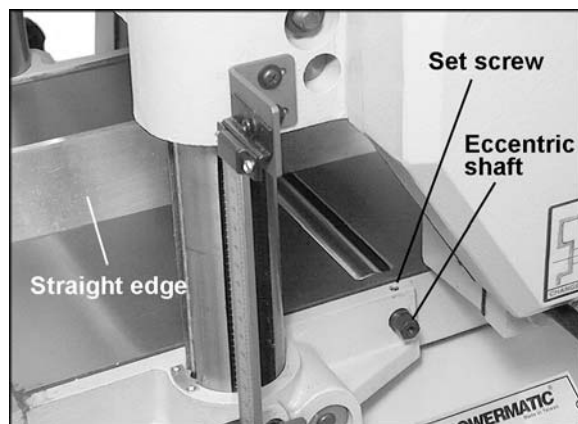

Figure 16
3. On one side of table, loosen set screws (Figure 16) with 3mm hex wrench, and turn eccentric shafts to raise or lower the rollers.